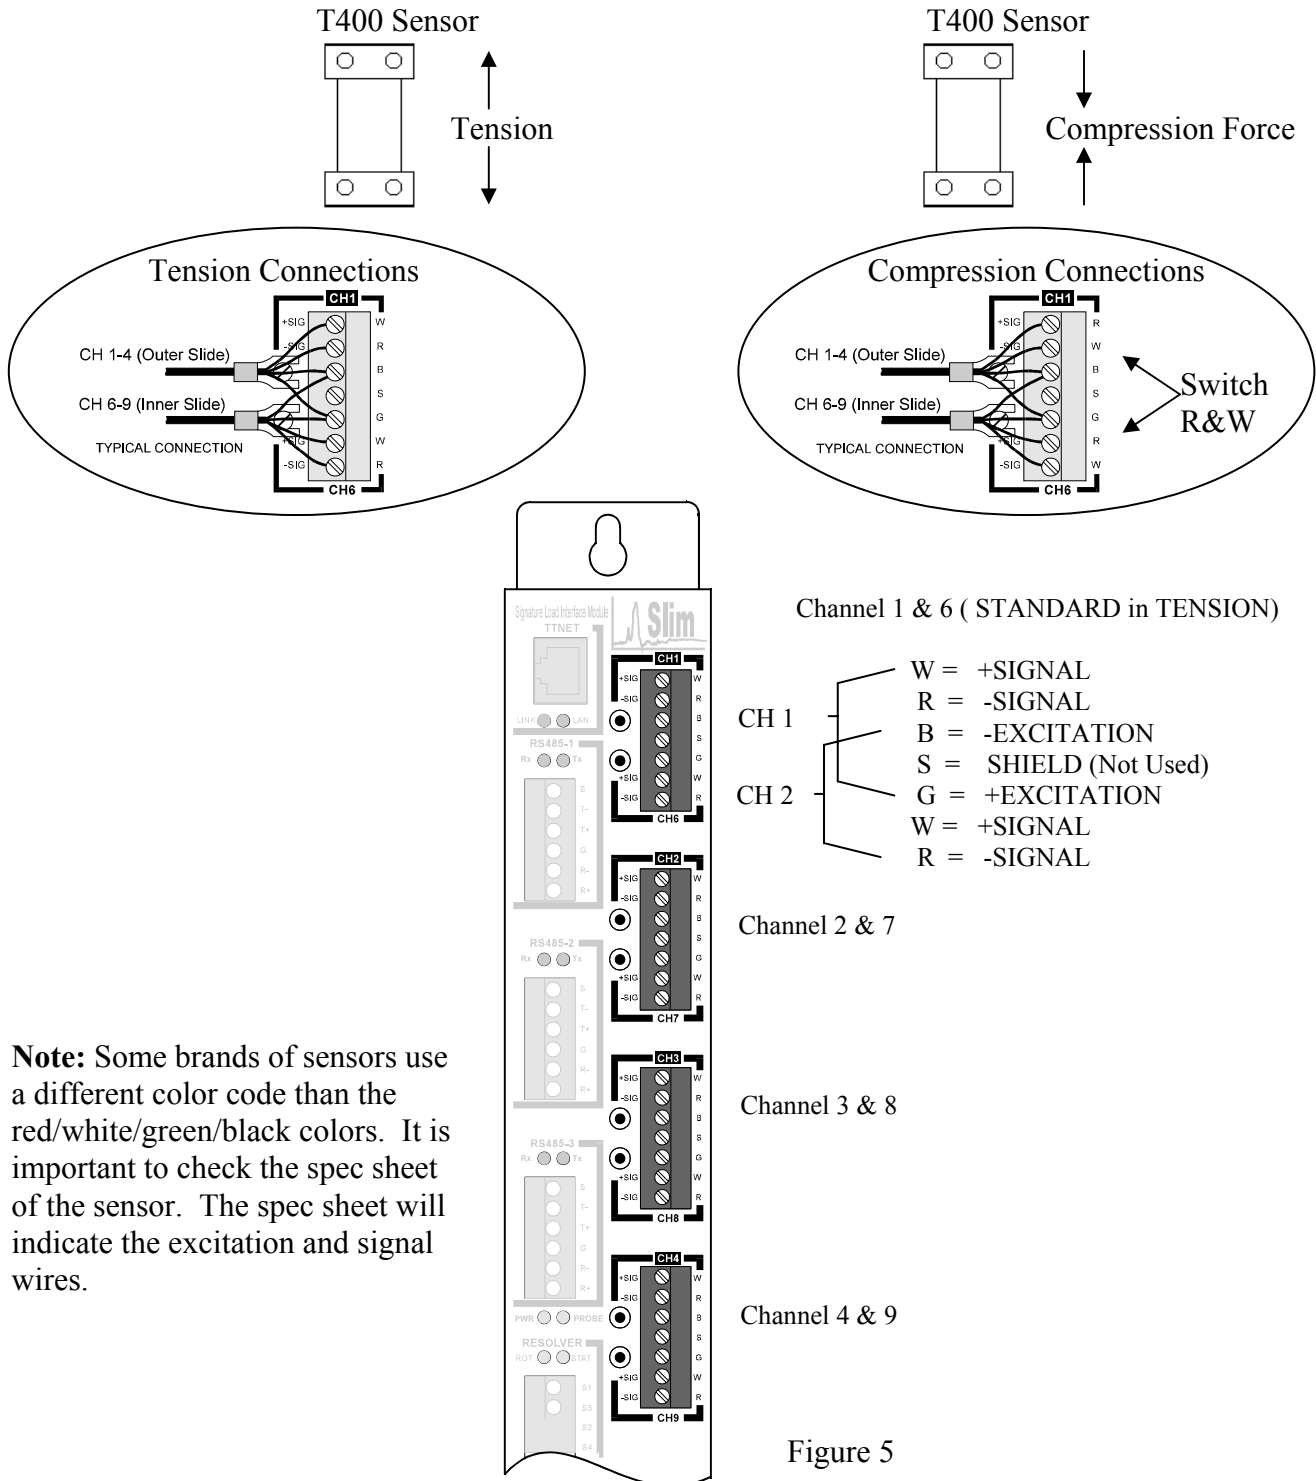

Figure 5
- Attach the wire lug to a ground terminal on the front of the SLIM. Use a 6-32 x $\frac{1}{4}$ " screw for the grounding lug connection. If you have a Toledo Transducers sensor, attach the signal wires to the channel connector following the color codes in Figure 5.
The SLIM Load Module accepts the signals from Toledo Transducers T-400 sensors as well as other strain gages. Figure 5 illustrates the sensor connections for the SLIM